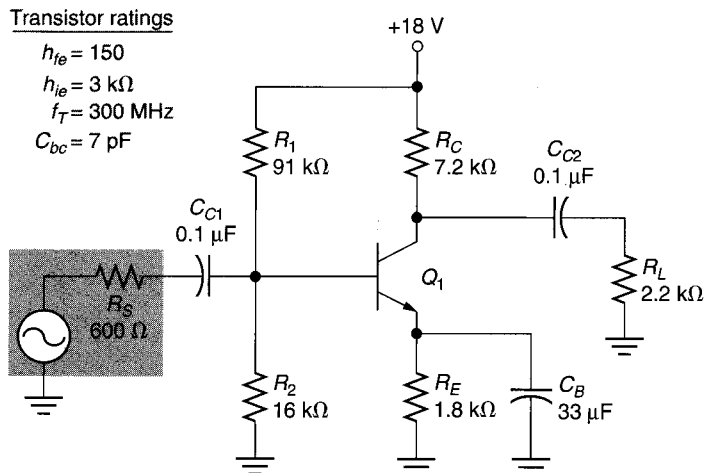

FIGURE 14.31
11. Calculate the value of  $f_{1B}$  for the amplifier in Figure 14.31.
13. Calculate the value of  $f_{1C}$  for the amplifier in Figure 14.31.
15. Calculate the value of  $f_{1E}$  for the amplifier in Figure 14.31.
25. Determine the value of  $f_{2B}$  for the amplifier in Figure 14.31.
27. Determine the value of  $f_{2C}$  for the amplifier in Figure 14.31.